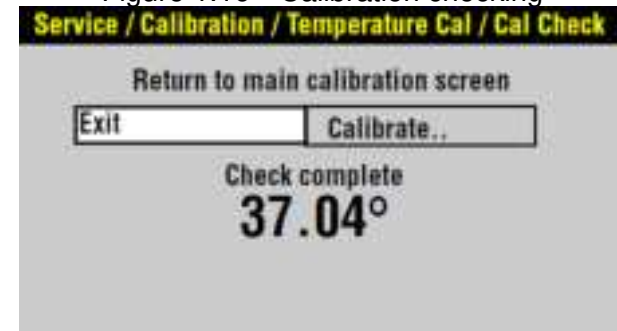

Figure 1.17—Cal check completion
6. When the calibration check is complete as shown in Figure 1.17.